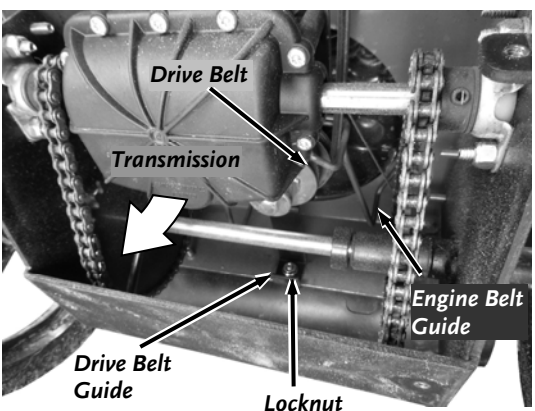

Figure 29
6. Loosen the Drive Belt Guide Locknut at the rear of the Frame using a 7/16" Socket w/Ratchet and rotate the Guide out of the way (**Figure 29**).